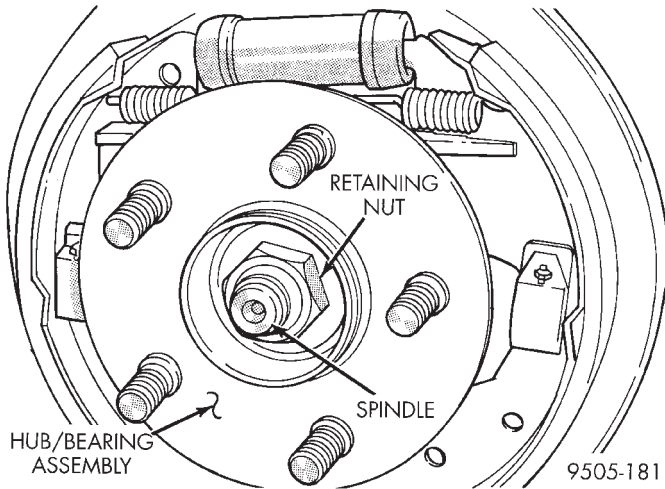

Fig. 76 Hub And Bearing Retaining Nut
(4) Remove the rear hub and bearing assembly retaining nut (Fig. 76). Then remove the hub and bearing assembly from the rear spindle.
(1) Install gasket and brake support plate on rear spindle. Tighten the support plate-to-spindle attaching bolts to a torque of 63 N·m (46 ft. lbs.).
(2) Insert parking brake cable end fitting into brake support plate.
(3) Hand start hydraulic brake hose tube fitting to wheel cylinder. Tighten tube nut to a torque of 17 N·m (145 in. lbs.).
(4) Install rear brake shoe assemblies on the brake support plate. Refer to Rear Brake Shoes in the Removal And Installation Section in this group of the service manual for the proper brake shoe assembly installation procedure.
(5) Install the rear hub and bearing on the rear spindle. Install a **NEW** hub and bearing assembly retaining nut (Fig. 76).
(6) Tighten the hub and bearing assembly retaining nut to a torque of 250 N·m (185 ft. lbs.). Install dust cap.
(7) Adjust brake shoes assemblies so as not to interfere with brake drum installation.
(8) Install brake drum on rear hub/bearing assembly.